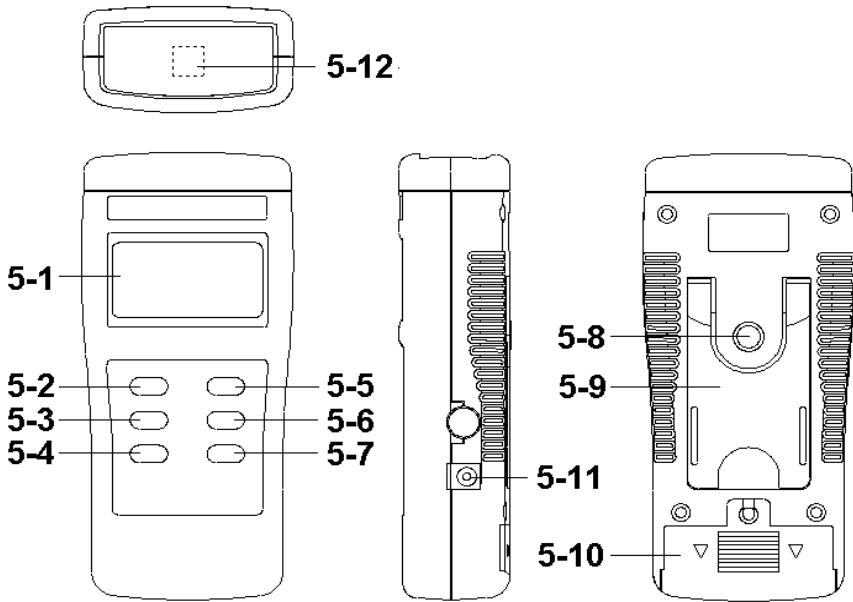

Fig. 1
(5-2, Fig. 1) once.
(5-5, Fig. 1)
(5-6, Fig. 1)
- 2) With the tester in hand, move slowly towards to the object under measurement until it is physically touched. The upper Display (5-1, Fig. 1) will present the EMF measurement value.
- * *EMF Sensor Position is in the area of " 5-13 , Fig. 1 " .*
During the measurement, press the " Hold Button " (5-4, Fig. 1) once will hold the measured value & the LCD will display a " HOLD " symbol.
* The data record function records the maximum and minimum readings. Press the " REC Button " (5-3, Fig. 1) once to start the Data Record function and there will be a " REC " symbol on the display.
a) Press the " REC Button " (5-3, Fig. 1) once, the " REC MAX " symbol along with the maximum value will appear on the display.
If intend to delete the maximum value, just press the " Hold button " (5-4, Fig. 1) once, the display will show the " REC " symbol only & execute the memory function continuously.
b) Press the " REC button " (5-3, Fig. 1) again, the " REC. MIN. " symbol along with the minimum value will appear on the display.
If intend to delete the minimum value, just press the " Hold button " (5-4, Fig. 1) once, then the display will show the " REC " symbol only & execute the memory function continuously.
During the measurement, the LCD backlight will On. If press the " Backlight Button " (5-7, Fig. 1) once, the LCD backlight will be switched to Off.
To de-activate this feature, Select the memory record function during measurement by pressing the " REC Button " (5-3, Fig. 1).
- 2) Slide the " Battery Cover " (5-10, Fig. 1) away from the instrument and remove the battery.